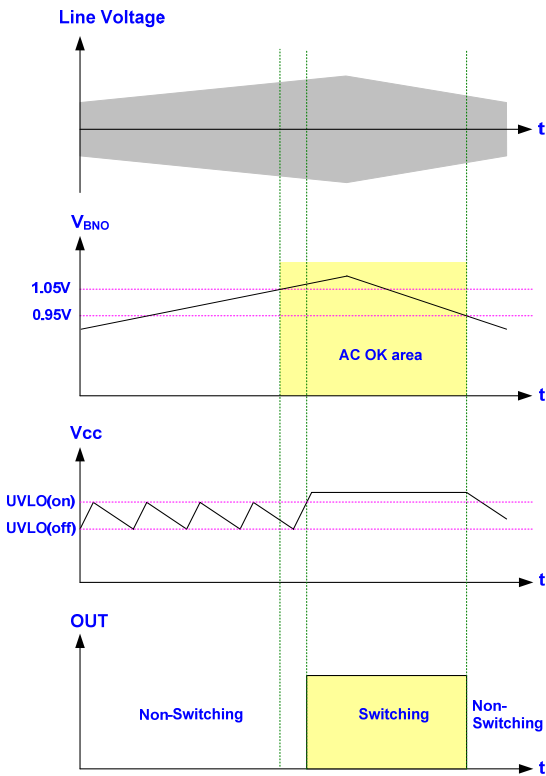

Fig. 19
The voltage across the BNO pin is proportional to the bulk capacitor voltage, referred as the line voltage. A brownout comparator is implemented to detect the abnormal line condition. As soon as the condition is detected, it will shut down the controller to prevent the damage. Figure 19 shows the operation. When  $V_{BNO}$  falls below 0.95V, the gate output will be kept off even Vcc has already achieved UVLO(ON). It therefore makes Vcc hiccup between UVLO(ON) and UVLO(OFF). Unless the line voltage is large enough to pull  $V_{BNO}$  larger than 1.05V, the gate output will not start switching even when the next UVLO(ON) is tripped. A hysteresis is implemented to prevent the false trigger during turn-on and turn-off.
In order to protect BNO pin from being damaged during the dividing resistors floating, an internal zener diode is implemented in BNO pin. Fig. 19 shows the sinking capability of the zener diode. To protect BNO pin, the current flowing in BNO pin must be below  $1.5\mu\text{A}$ , as shown in Fig. 21.